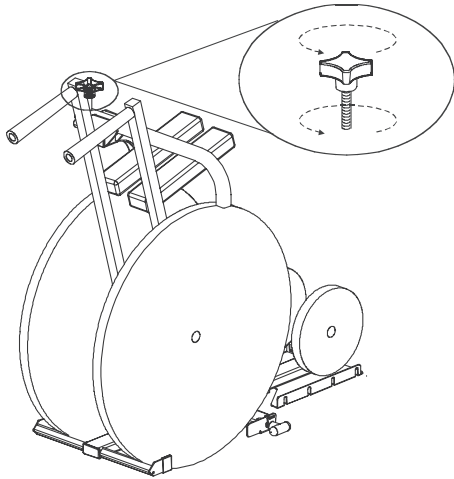

Figure 4-12
1. Release pressure off of the hold-down arm by turning the hold-down arm knob counter-clockwise. *See Figure 4-12.*